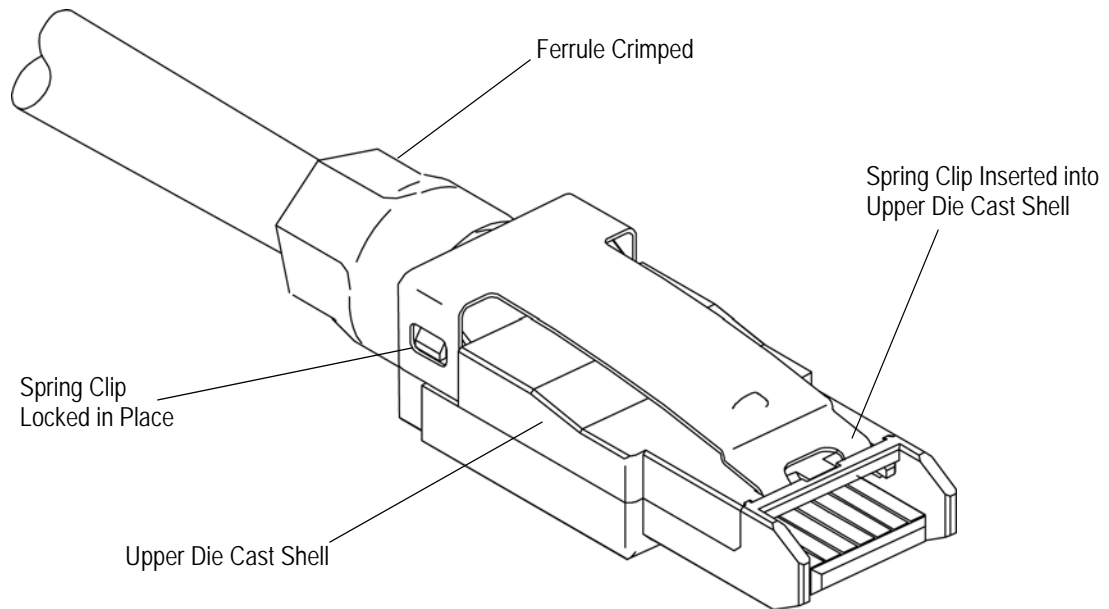

Figure 10
8. Crimp the ferrule over the cylindrical tail and cable braid and to the cable jacket using the recommended tooling in Instruction Sheet 408-8609 and as shown in Section 5, TOOLING. The crimp height over the braid and insulation must be as provided in the table in Figure 2. See Figure 10.